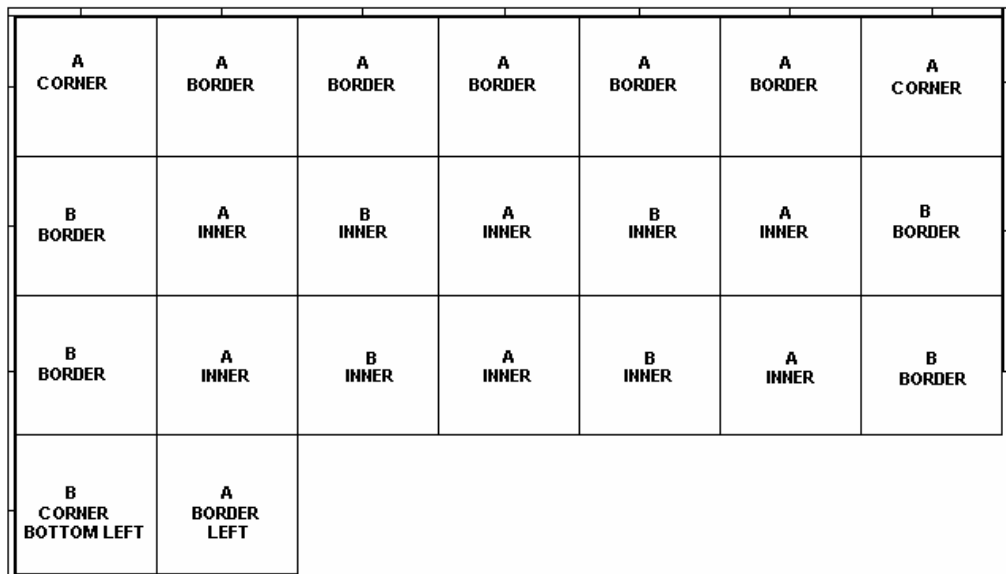

Figure 26
23. Next lock a “A BOTTOM BORDER” to the left side of “B CORNER BOTTOM LEFT”. (Figure 26)